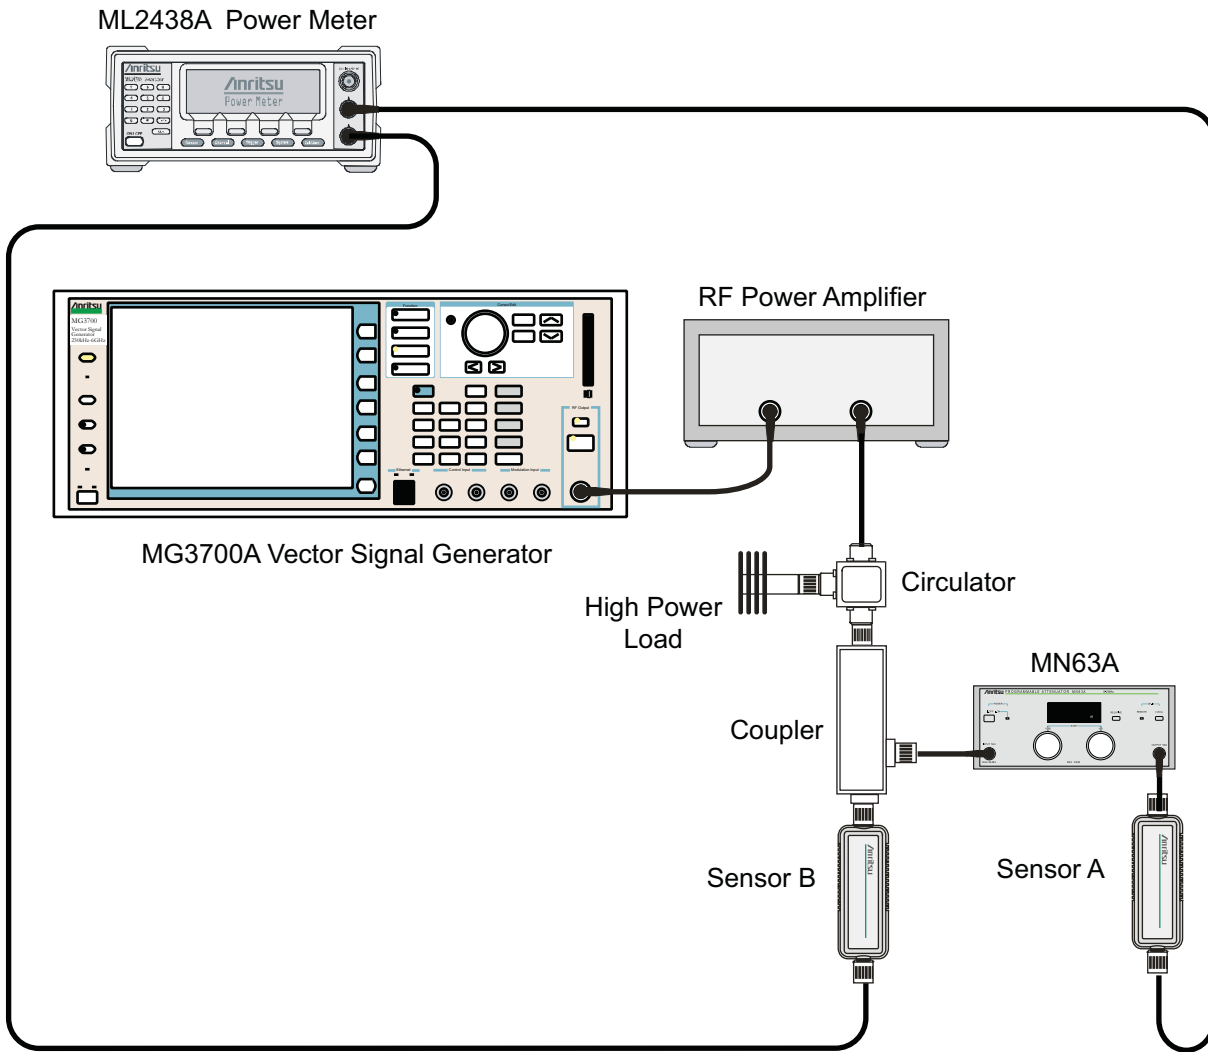

Figure 3-4. WCDMA/HSDPA Signal Analyzer, Characterization Setup
1. Connect the MG3700A, RF power amplifier, circulator, load, coupler, and programmable attenuator as shown in Figure 3-4.
3. Connect the power sensors to the power meter and then zero the sensors. Then connect the sensors as shown in Figure 3-4.
4. Press the **On/Off** key to turn on the MS272xC and wait until the measurement display appears. Then press the **Shift** key, and press the **Mode** (9) key to activate the mode selection menu.
6. Press the **Shift** key, the **Preset** (1) key, and then the Preset submenu key.